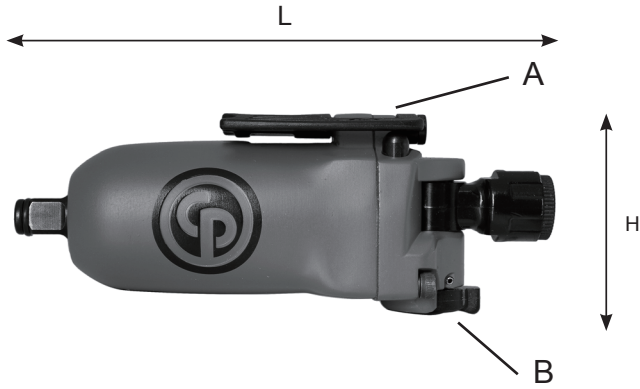

Fig. 2
1. Technical Data (see Fig 2.)